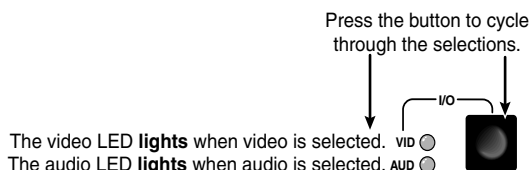

Figure 3-22 — Select video and audio
1. Select both video and audio for viewing (figure 3-22).